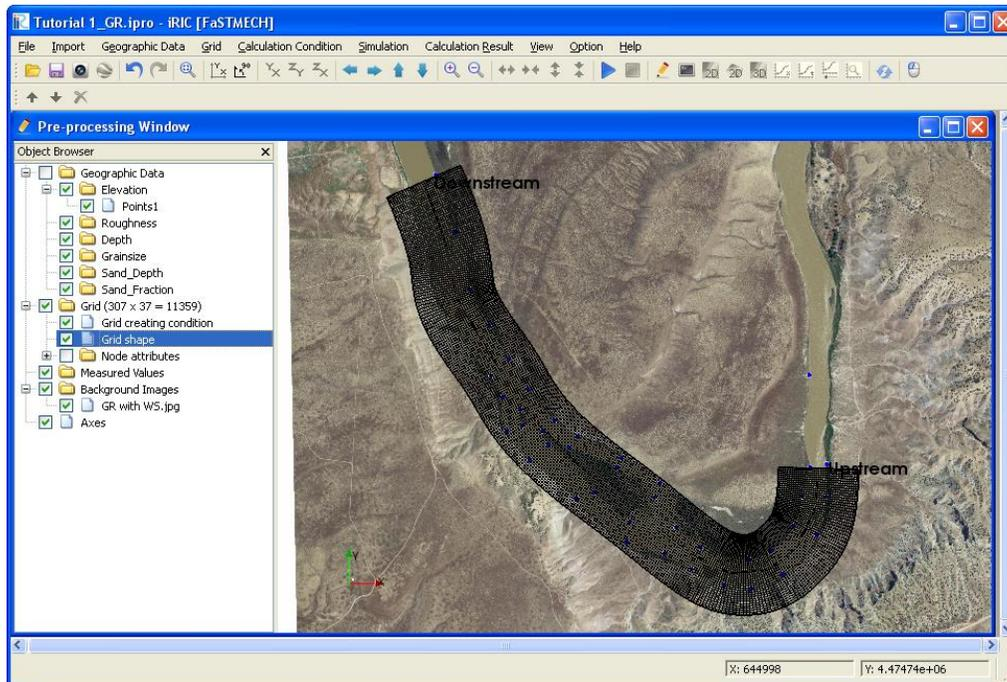

Figure 8. Example grid for the Green River.
- A Confirmation message “Do you want to map geographic data to grid attributes now?” follows. In this case we will decline by selecting No. We want to modify the location and curvature of the grid which is likely in this case to take many iterations. To disable the automatic mapping of geographic information from the **Menu Bar** select *Grid* ► *Attributes Mapping* ► *Setting* and in the resulting Grid Attribute Mapping Setting dialog, select Manual for the Execute mapping property. Your grid should look similar to Figure 8